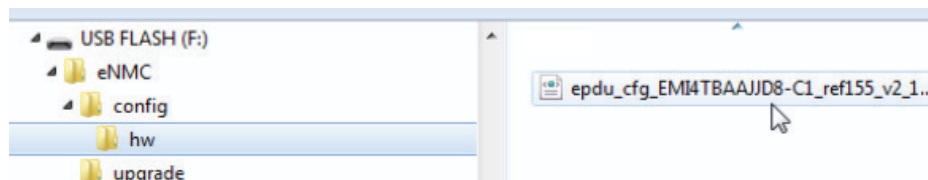

Figure 95. USB Root Directory
12. Select Save eNMC file to save the ePDU hardware configuration file to the USB drive. The file will save to the eNMC/config/hw path at the USB drive root directory (see Figure 95).